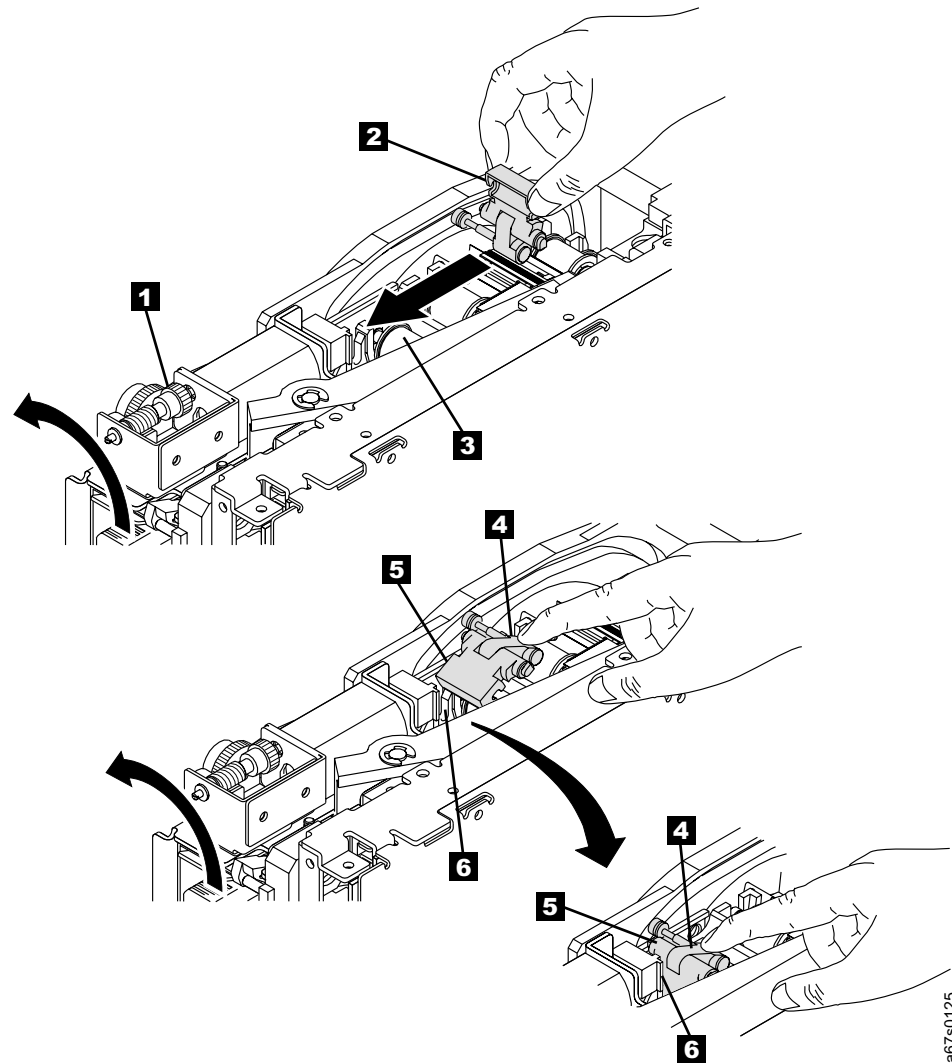

Figure 33. Guiding the leader pin into the tape cartridge
1. Manually rotate the loader motor gear (see **1** in Figure 33) in the unload direction until the leader pin block **2** reaches the last roller **3**.